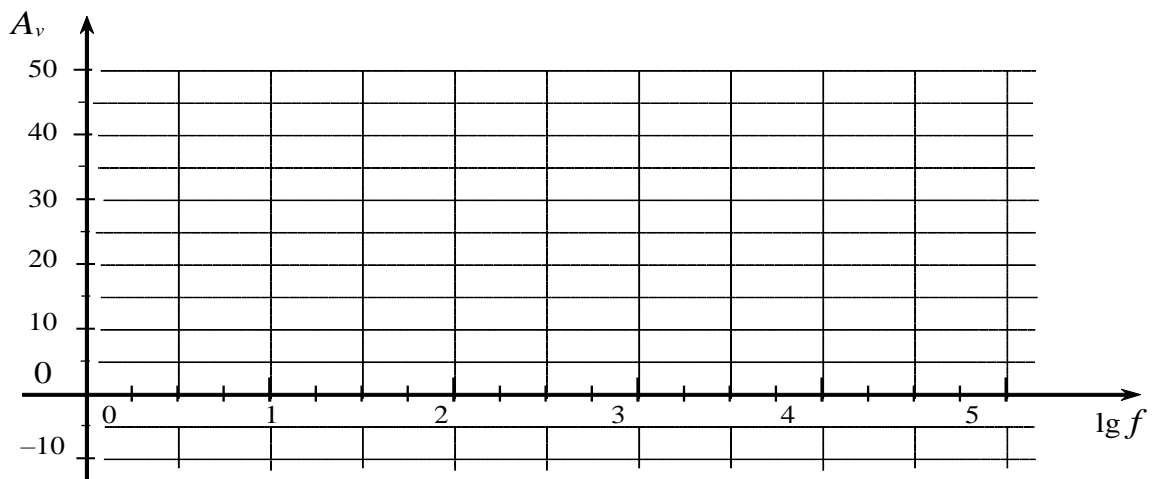

Fig. 8 Logarithmic gain - frequency response for OA integrator.
- put the results into the Table 3 and Fig. 8 and draw the smooth curves of gain – frequency responses.